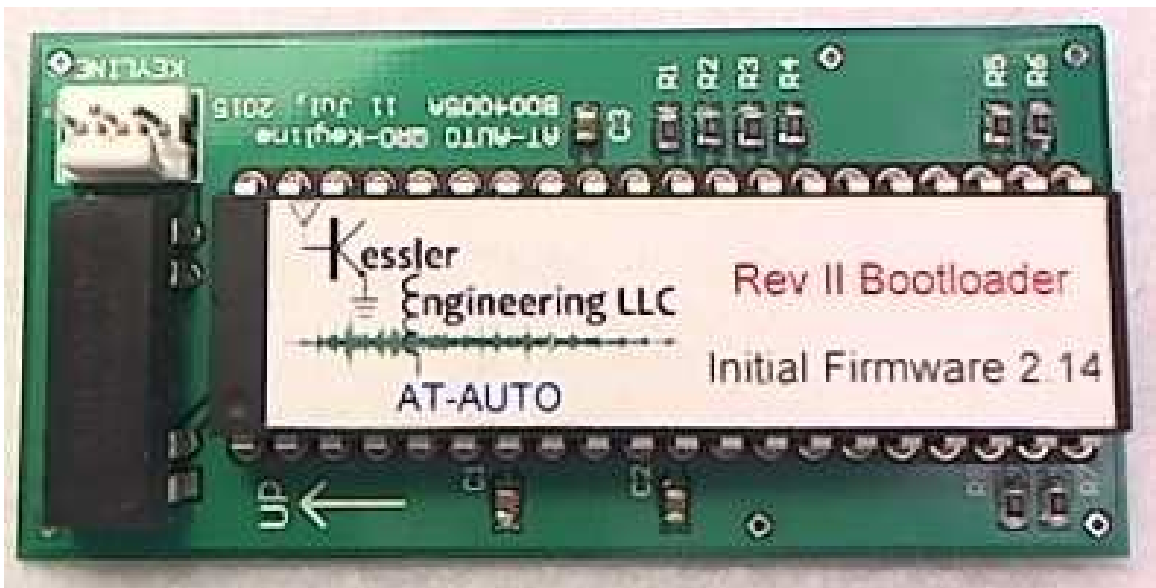

Figure 1.7: AT-AUTO_(tm) Microprocessor to Daughterboard Orientation
2. Locate the QRO Keyline Daughterboard and orient the microprocessor as shown in Figure 1.7 and insert. The microprocessor case has a “dimple” near Pin 1. When properly oriented, the microprocessor “dimple” should be approximately adjacent to the word “UP” printed on the Daughterboard.